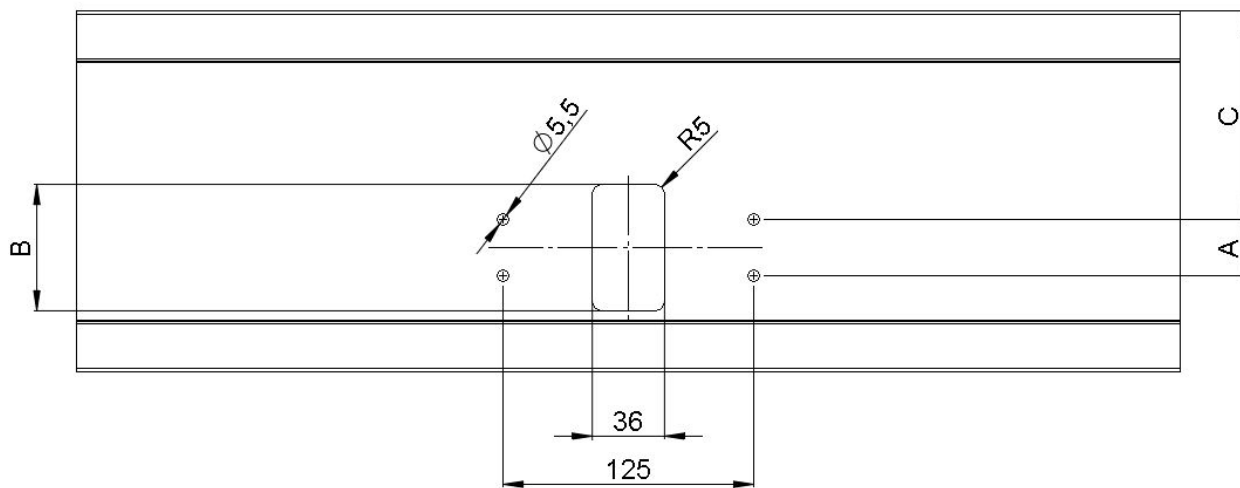

Fig. 5: Example: Installation drawing shown in rear view (section and hole pattern for 4-pole sliding contact sensor unit)
- Cut conductor rails to measure, if required (see Fig. 5), deburr cutting edges. More details see mounting instructions for rail material / conductor rail 0185